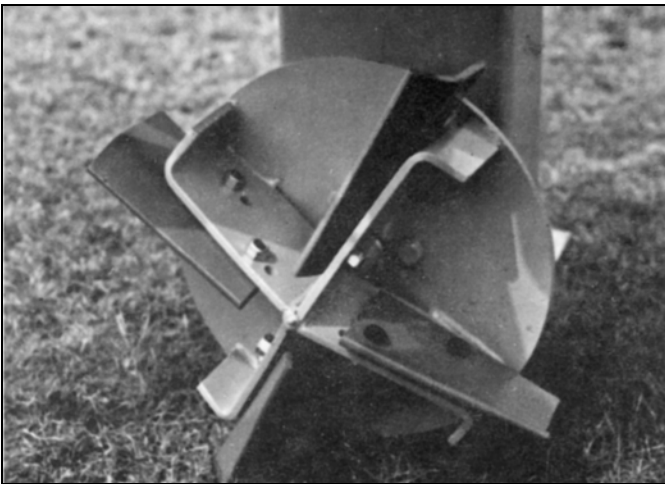

Figure 4-3: Blade Rotation
2. The ditcher should be lowered slightly before engaging the tractor PTO shaft. The PTO should not be engaged with the ditcher blades resting on the ground (**See Figure 4-3.**) The sudden shock of starting with the blades on the ground will cause drive shaft, shear bolt, and chain failures. After the blades start rotating the tractor engine RPM should be set for a 540 RPM PTO speed. The ditcher should be lowered onto the ground and the tractor driven forward. The speed and depth should be matched to the soil conditions. In wet or loose soil the ditcher will cut a fairly deep ditch at 2 to 2-1/2 MPH. In dry soil or hard soil the travel speed must be greatly reduced. Cutting depth must also be reduced. It may be necessary to make two or more passes to obtain deeper water furrows. In general, keeping engine RPM set for proper PTO speed and avoiding sudden shock loads will greatly reduce down time and field failures. The ditcher should never be raised to maximum height with the PTO engaged. Always reduce engine RPM and raise the Power Ditcher to about 50 percent of the maximum height while turning.